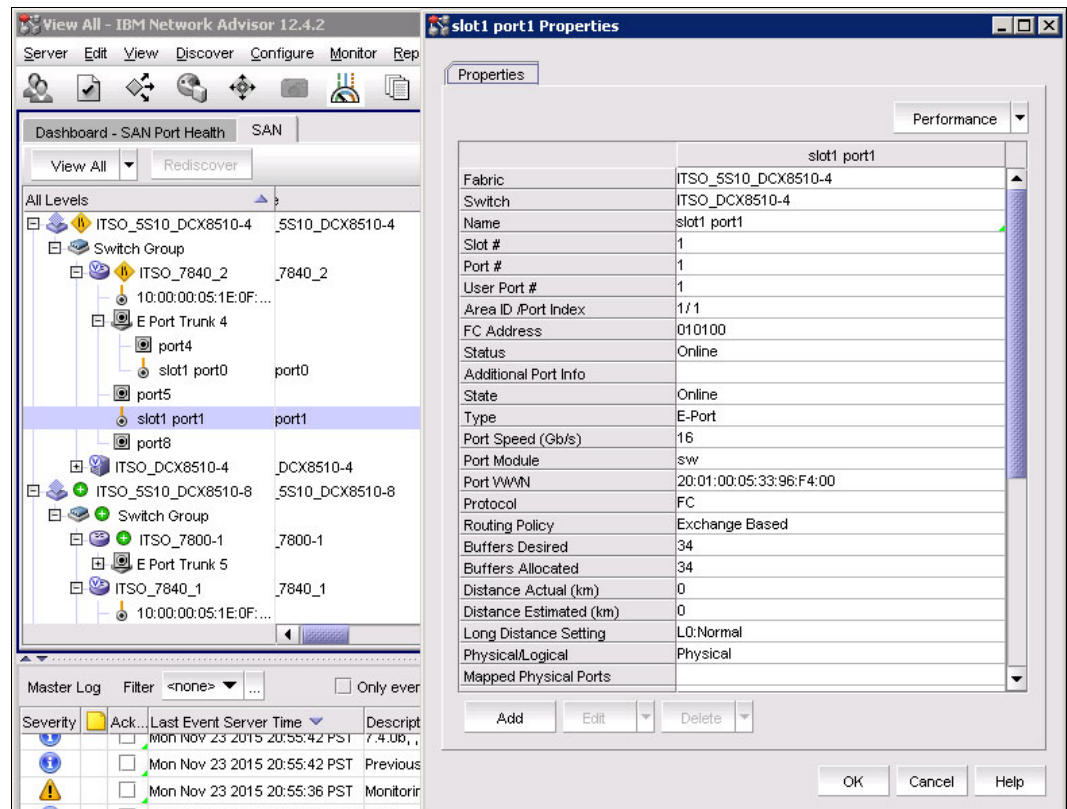

Figure 12-4 Port Properties panel
- For more information about a specific port in the list, right-click the port and select **Properties** from the menu. The port Properties window is displayed (Figure 12-4).